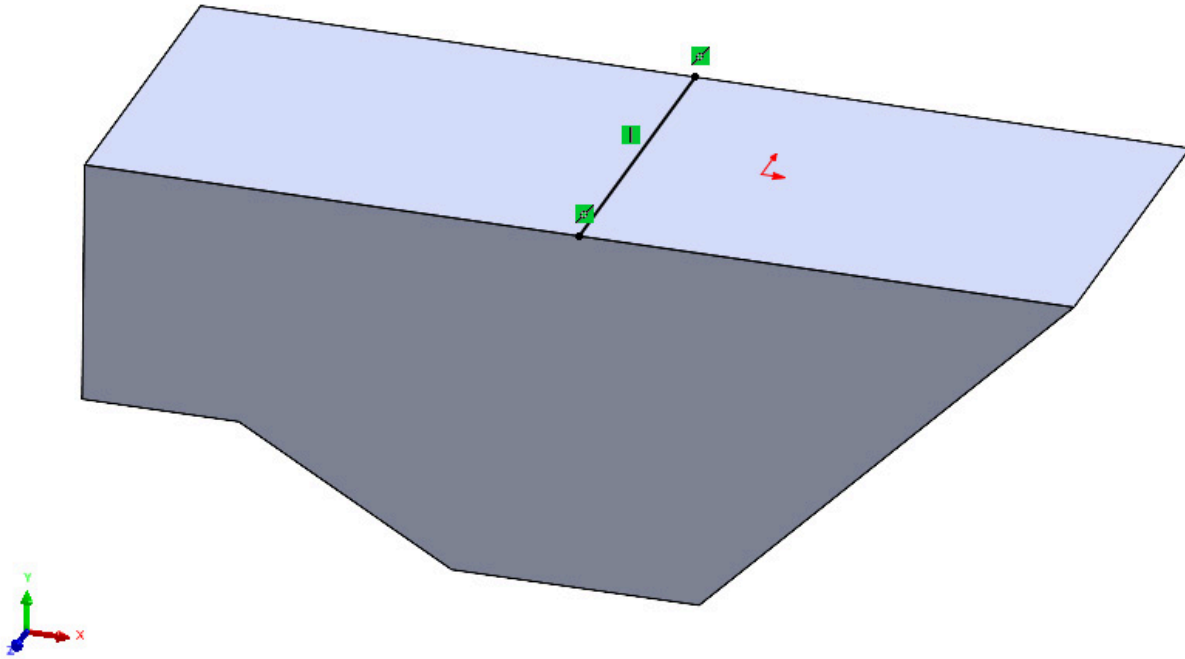

Figure 12.21: Sketch the Rip Line
3. Now sketch the **Rip Lines** using the **Line Tool**. For this example start a sketch on the large, upper face of the shape and draw a line directly between the midpoints of the long edges (*Figure 12.21*). Then exit the sketch.